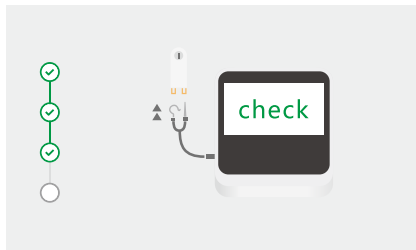

Fig.35 Connect tester
- Connect File clip and lip clip (or a second File clip) to the contact strips on the tester as shown on the screen (Fig. 35).